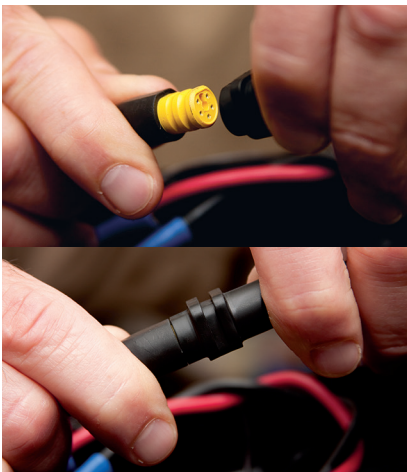

FIGURE 7
- Make sure connector is aligned properly. (Figure 7)
- Ensure connector is fully seated as shown. (Figure 7)